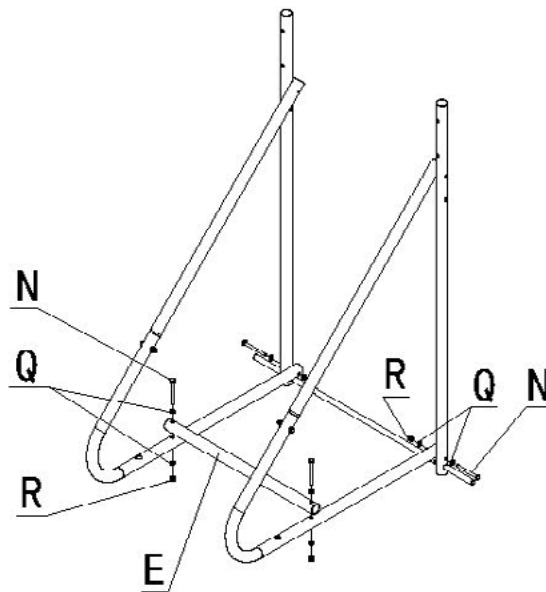

FIG. 3.
Step 3. Connect the assembled parts and transverse connecting pipe (E) in steps 1 and 2 through M6*65 bolt (N), 6*12 flat washer (Q) and M6 lock nut (R); FIG. 3.